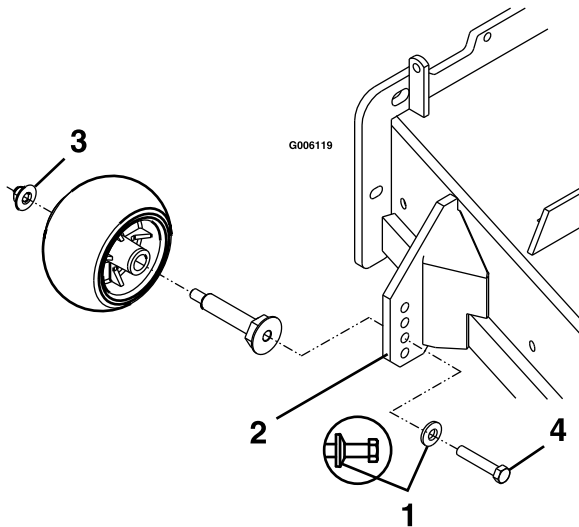

Figure 11
8. Torque the 3/8-24 x 2 Gr 8 hex capscrew to 50-55 ft-lb (68-75 N-m) (Figure 11).
9. If the 3/8 nyloc nut has been removed, re-install and torque to 30–35 ft-lb (41–47 N-m) (Figure 11).